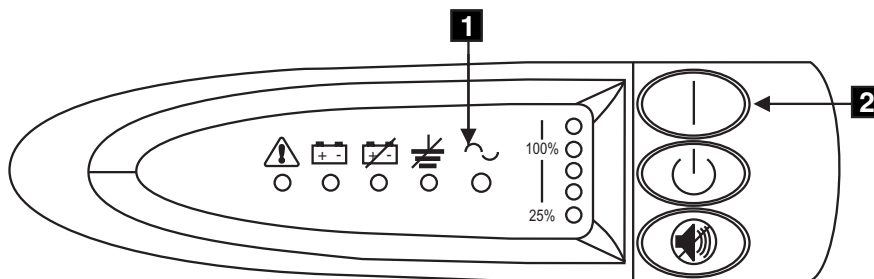

Figure 35. Power switch and indicators on the 2145 UPS
10. All front panel indicators of the 2145 UPS flash for a short time while the 2145 UPS runs a self-test. When the test is complete, the mode indicator **1** flashes to show that the 2145 UPS is in standby mode; see Figure 35.
Press and hold the 2145 UPS On button, **2** in Figure 35, until you hear the 2145 UPS beep (approximately one second). The mode indicator stops flashing and the load-level indicators display the percentage of load that is being supplied by the 2145 UPS. The 2145 UPS is now in normal mode and is charging its battery.